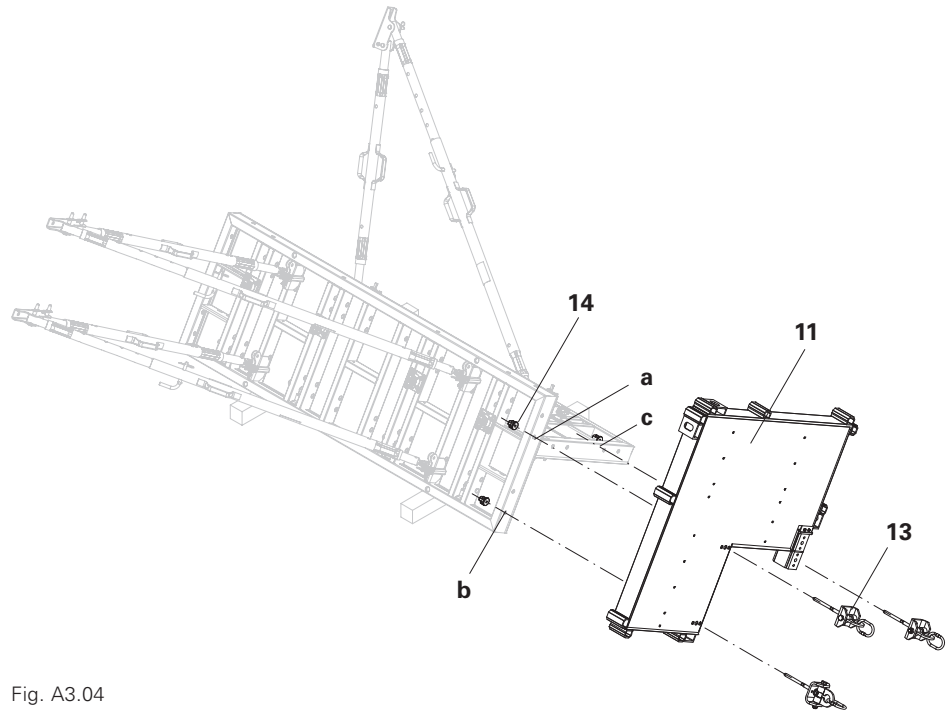

Fig. A3.04
1. Remove cam nuts (14) from the crane eyes (13).
2. Platform (11) is positioned vertically by hand at the formwork halves.
5. Align telescopic girder (16) to drilled hole c and mount third crane eye. The extension length of the telescopic girder is determined by the column cross-section. (Fig. A3.04)